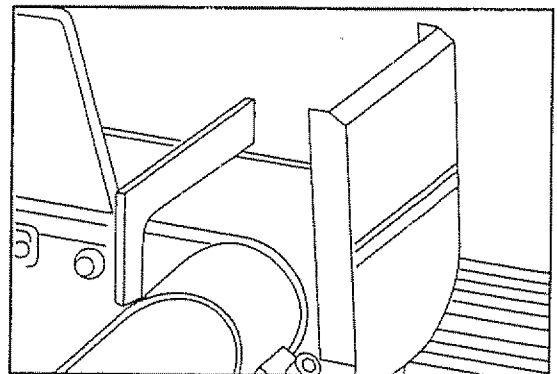

Fig. 11
■ Installing the dust deflector (see figure 11)